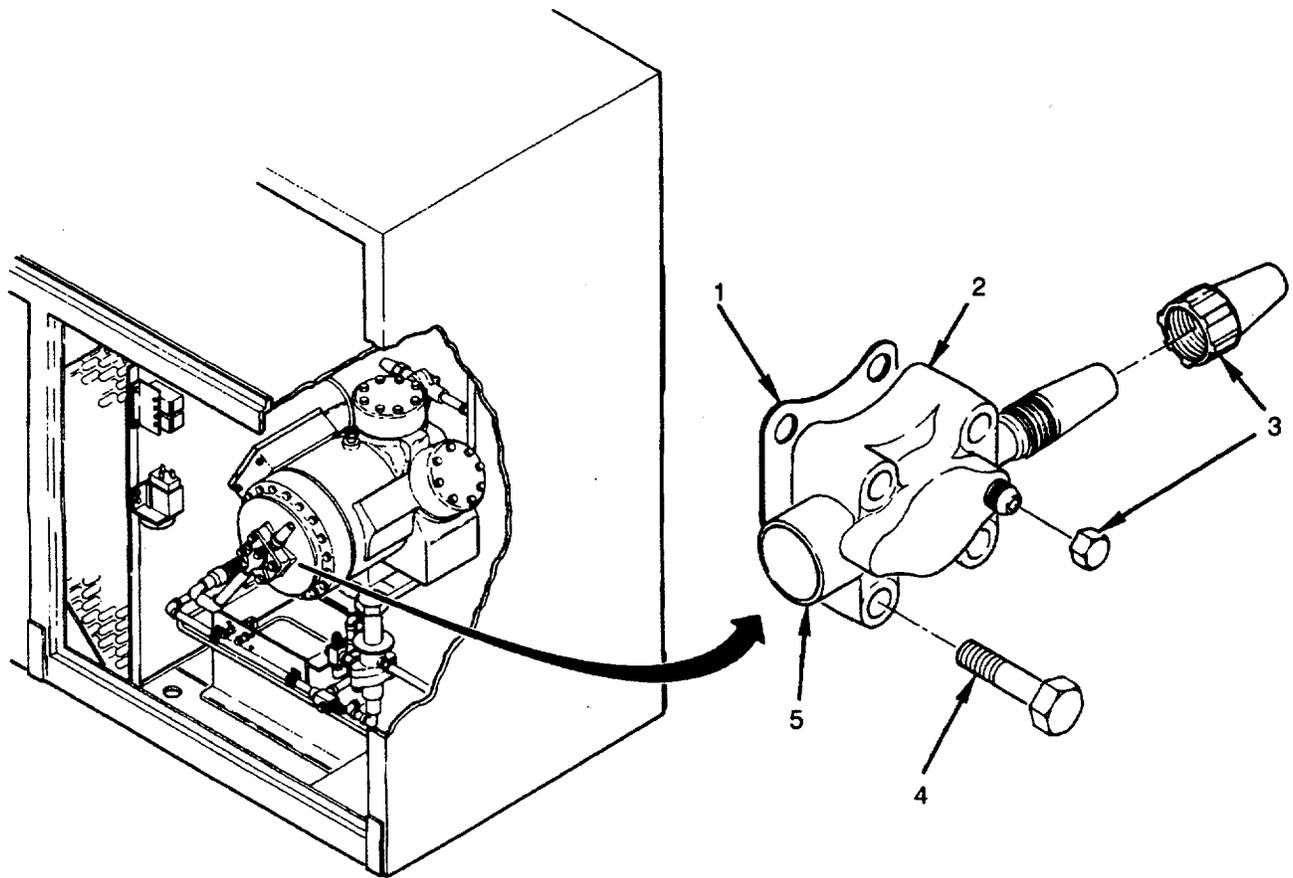

Figure 5-23. Suction Valve (Compressor)
1. Check that caps are in place and that threaded connection ends are not damaged. Replace if missing or damaged (see Figure 5-23).